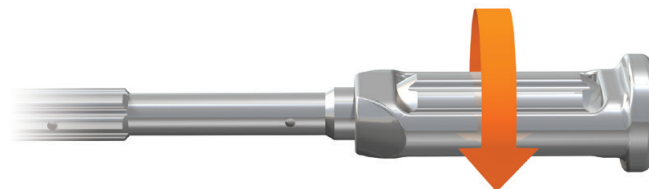

Figure 10
- Remove the inserter by turning the knob counterclockwise until the implant is released (Figure 10).